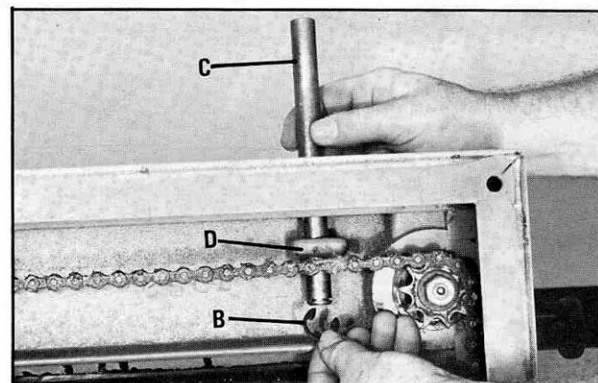

Fig. 3
2. Remove retainer (B) Fig. 3, from end of lifting handle (C).
3. Insert groove end of lifting handle (C) through hole in table casting and through hole in boss (D), as shown in Fig. 3.
4. Reassemble retainer (B) Fig. 3, to groove in end of lifting handle.